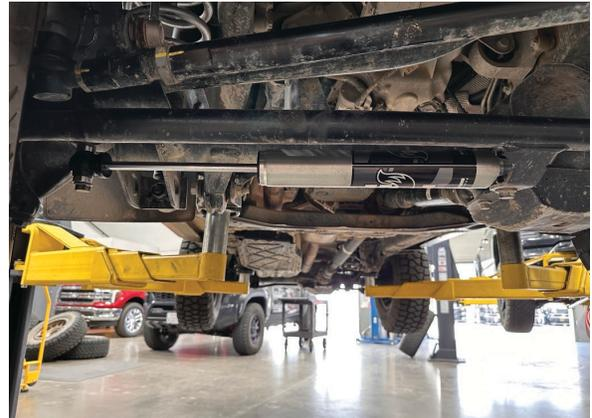

Fig. 1: Install the Performance Series stabilizer.
3. Install the steering stabilizer to the tie rod as shown (Fig. 1 and Fig. 2). Reuse the stock hardware and torque to OEM specification.